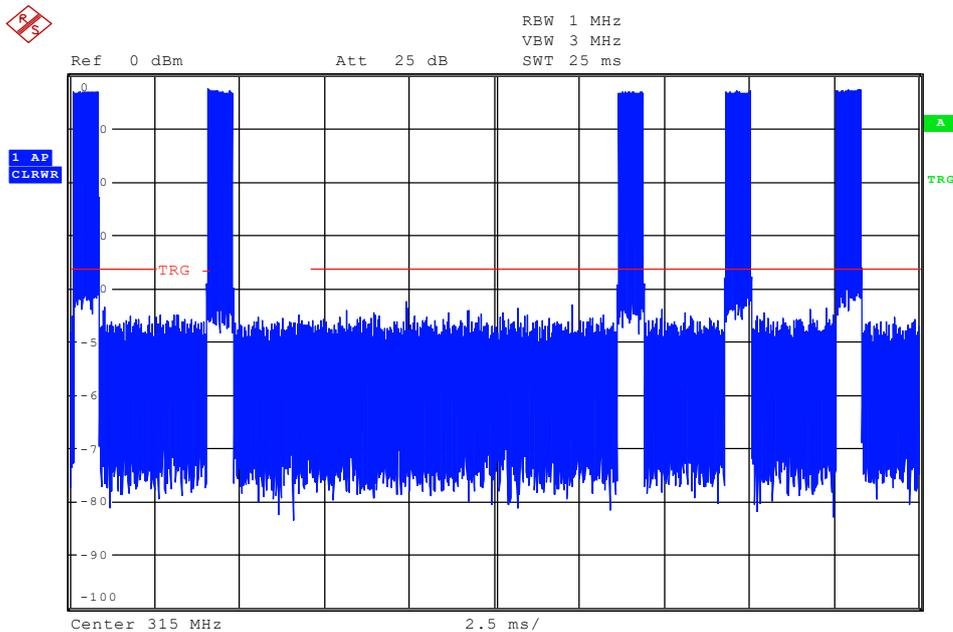

Fig 4: PTM200(C) Sub Telegram Timing
Figure 4 shows the timing sequence of one typical PTM200(C) telegram: each of the five sub telegrams is about 0.7 ms long. The delay between the first and second sub telegram is 4ms. After a minimum delay of 8ms a third sub telegram with an additional pseudorandom delay of 0, 2, 4 or 6ms is sent. After the third sub telegram, up to 2 additional sub telegrams with fixed timing may follow, dependent on the available energy.